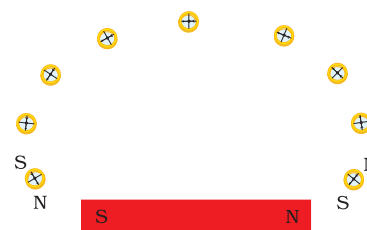

Figure 13.3
- In this way, proceed step by step till you reach the south pole of the magnet as shown in Fig. 13.3.